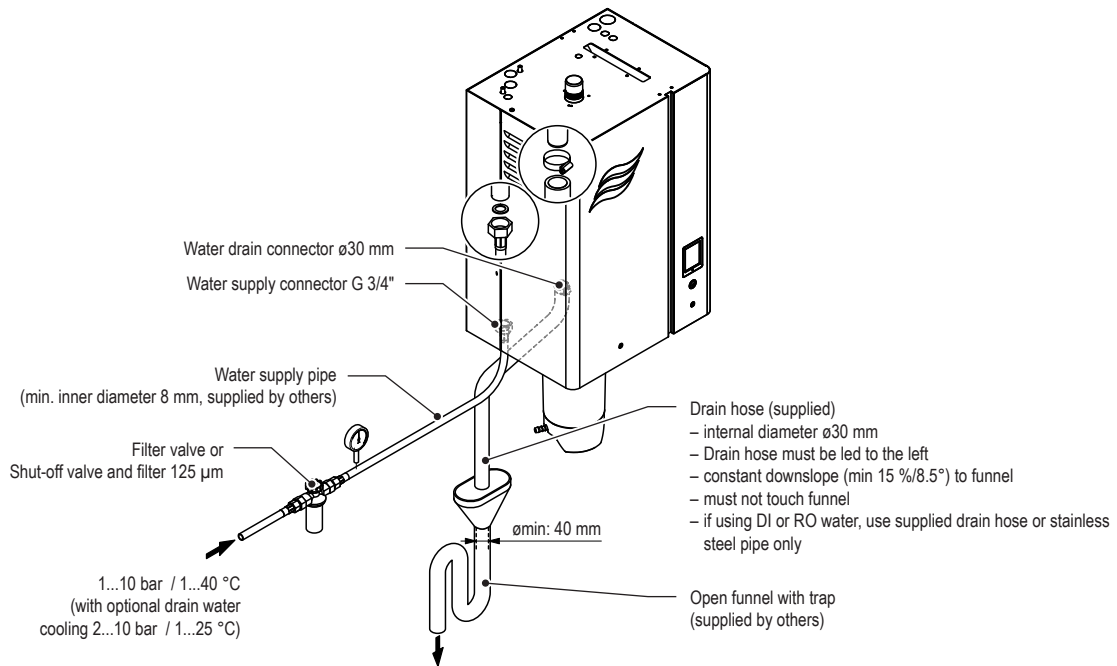

Fig. 21: Overview water installation for single units Small ("S") and Medium ("M")
- Always lead the supplied drain hose from the connector to the left down to the funnel (see Fig. 21).